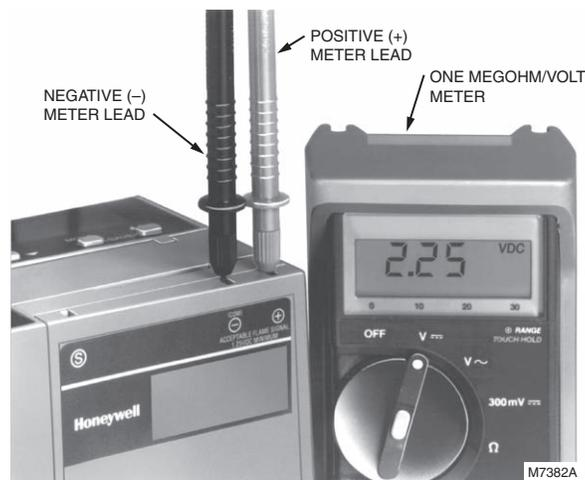

Fig. 25. Flame signal measurement.
Flame Signal Measurement (Table 11 and Fig. 25)
3. Insert the positive (red) probe into the + jack of the flame amplifier. Insert the negative (black) probe into the - (Com) jack of the flame amplifier (see Fig. 25).